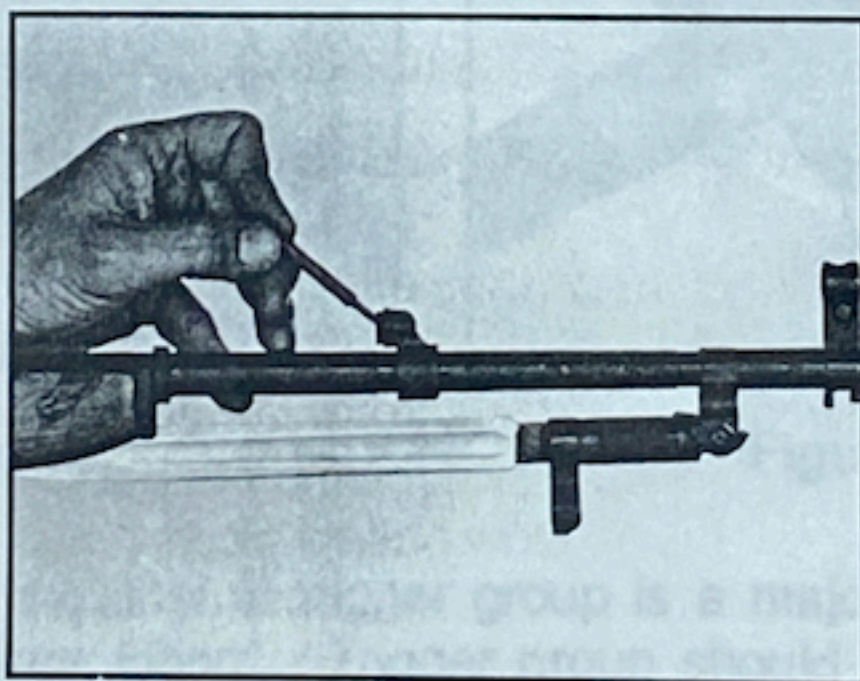

Figure 16
7. Clean the gas port and gas block area. (Figure 16) Remove the gas piston from the handguard and gas cylinder assembly, and clean thoroughly with solvent. Remove all carbon fouling, dry with a clean rag, then apply a light coat of oil. (Gas Port Cleaning tool is normally not included in basic cleaning kits, but is available from SKS parts dealers.)